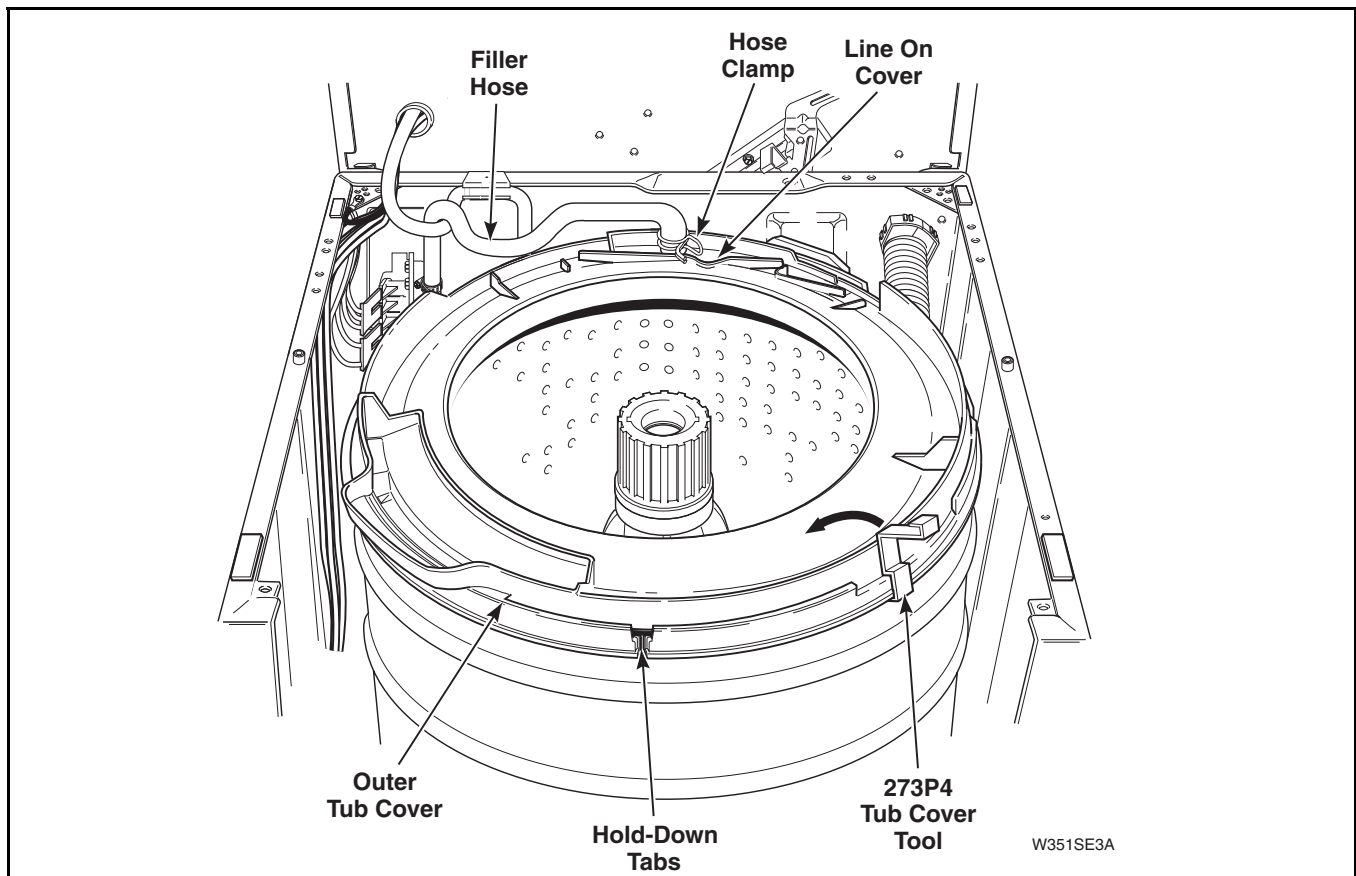

Figure 32
- Loosen hose clamp and remove filler hose from outer tub cover. Refer to *Figure 32*.
NOTE: When installing filler hose, white line on hose must be aligned with line located on top side of outer tub cover. Refer to *Figure 32*.
- There are eight tub cover hold-down tabs which snap over outer tub flange. Using special tub cover tool, Part No. 273P4, insert two prongs of tool underneath each side of tandem tabs. Refer to *Figure 32*. Tilt tool toward center of tub cover and at same time lift upward on cover to unsnap hold-down tabs from outer tub flange. One by one, disengage each of the eight hold-down tabs from outer tub flange and remove cover.
- g. Loosen hose clamp and remove filler hose from outer tub cover. Refer to *Figure 32*.
NOTE: When reinstalling filler hose, white line on hose must be aligned with line located on top side of outer tub cover. Refer to *Figure 32*.
- (1) There are eight tub cover hold-down tabs which snap over the outer tub flange. Using special tub cover tool, Part No. 273P4, insert two prongs of tool underneath each side of tandem tabs. Refer to *Figure 32*. Tilt tool toward center of tub cover and at the same time lift upward on cover to unsnap hold-down tabs from outer tub flange. One by one, disengage each of the eight hold-down tabs from outer tub flange and remove cover.
- (2) Lift cover off outer tub and set beside washer cabinet.